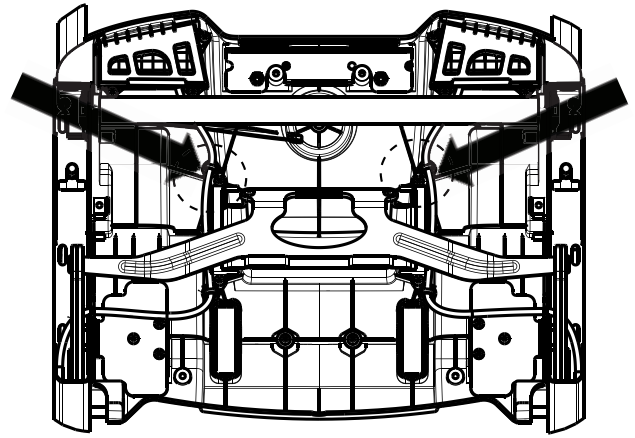

Figure 31 –
6. Using wire cutters, cut the two cable ties that secure the backrest UI module cable to the backrest (Figure 31). Discard the cable ties.